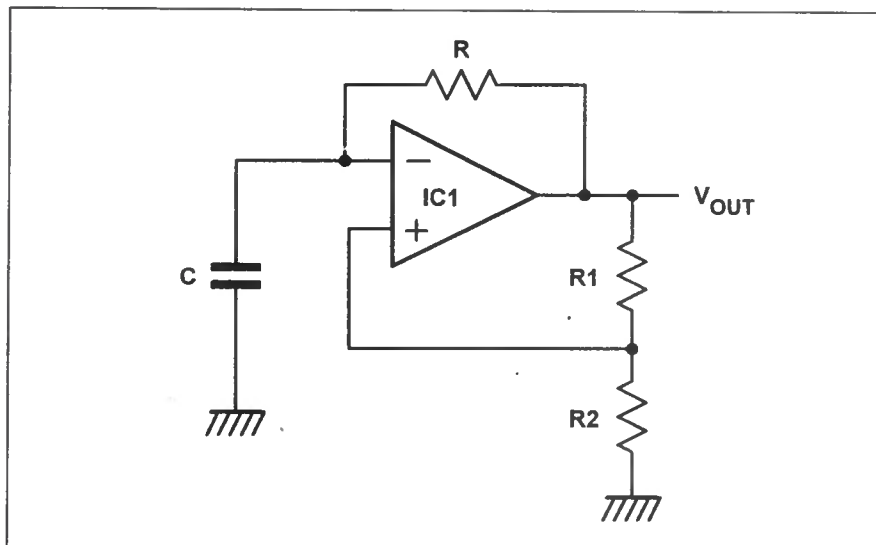

Fig. 6.15 Single-stage astable oscillator using an operational amplifier.
A simple form of astable oscillator can be built using just one op.amp, as shown in Fig. 6.15. This circuit employs positive feedback with the output fed back to the non-inverting input via the potential divider formed by resistors R1 and R2.
3. Use the oscilloscope to accurately measure the periodic time of the output waveform. Record this together with the value of resistance (R in Fig. 6.15) in Table 6.3.